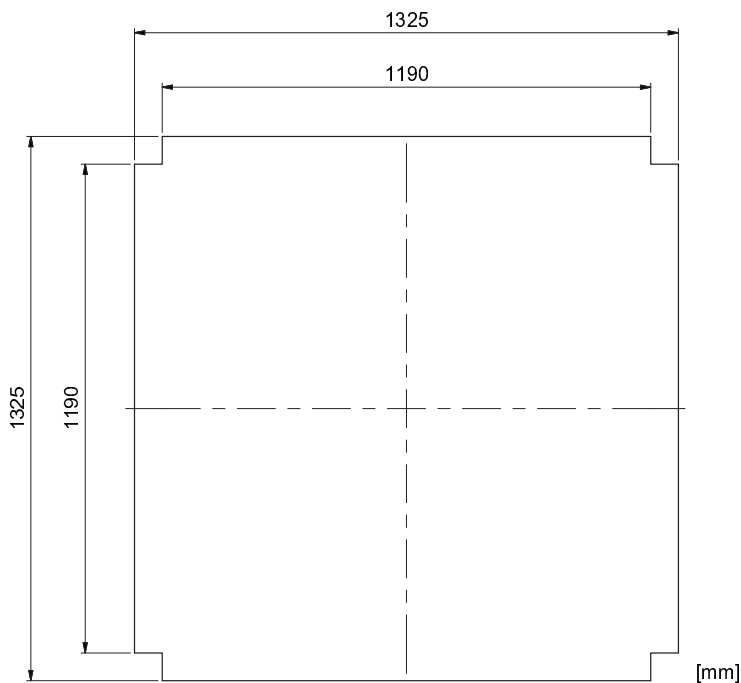
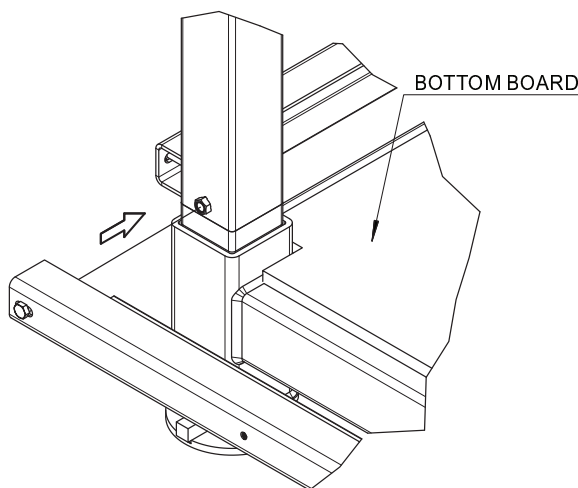

Figure 21. *Dimension of the Bottom Plywood Board.(Art. 11540)*
Figure 22. *Example of placement of Formwork Support.*
5.1 Check that all four Corner Posts are inserted correctly into the Bottom Frame. Cut a piece of 18 mm Formwork Plywood, complying with EN 636-3, to the format as shown in Figure 21 and place in the centre of the Bottom Frame. Bolt the eight Formwork Supports to the welding nuts. Use the bolts attached to the Formwork Support, see Figure 22. At this step it is not necessary to tighten the bolts.